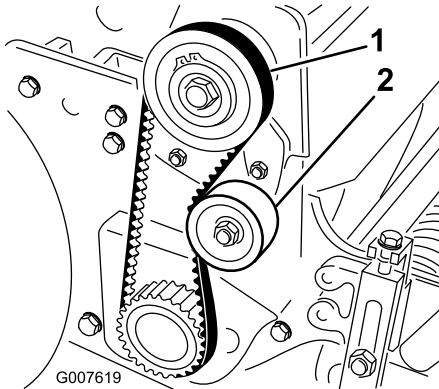

Figure 34
2. Check the tension by pressing the belt at mid span of the pulleys (Figure 34) with 4 to 5 lb of force. The belt should deflect 1/4 inch.
- A. Loosen the idler pulley mounting nut and pivot the idler pulley downward against the backside of the belt until you attain the desired belt tension (Figure 34).